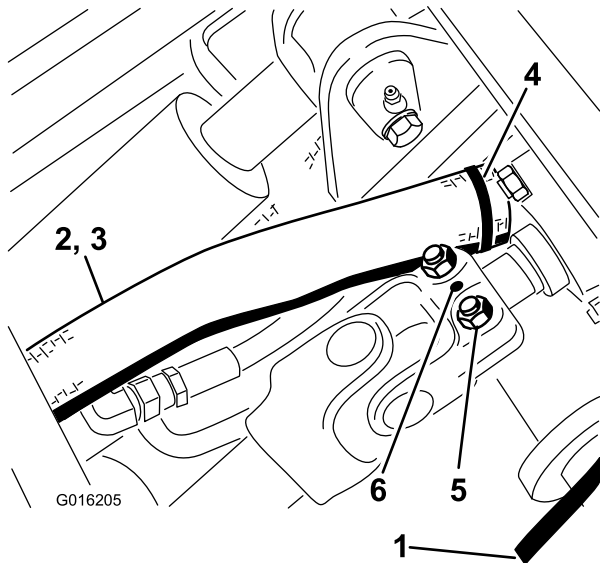

Figure 112
23. Connect the drive shaft to the gear box shaft in the winter frame and torque the bolts (5/16 inch) to 20 to 25 N-m (175-225 in-lb). Install the roll pin (Figure 112).